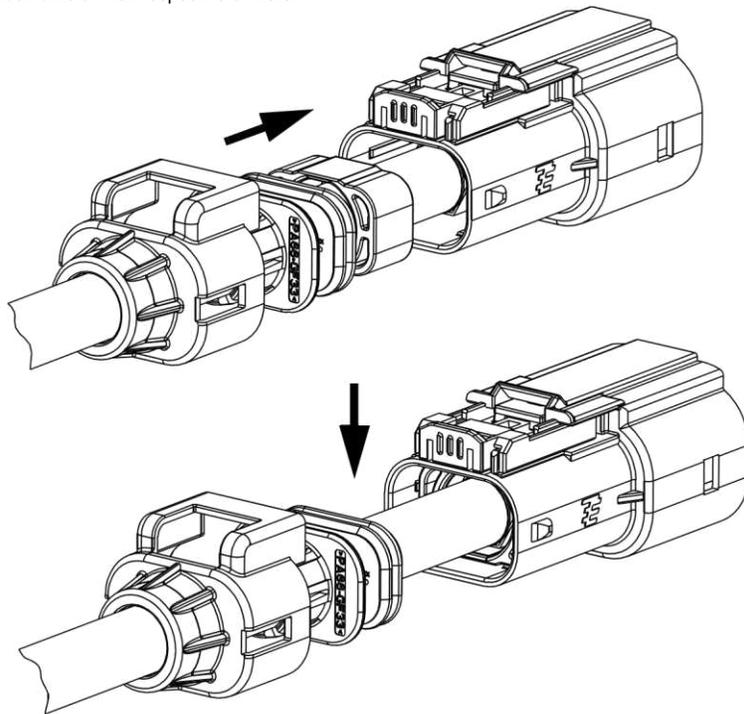

Figure 16
3.6.13. Slide the spacer forward on the cable and into the cable exit end of the connector assembly until it stops against the inside of the connector outer housing as shown in Figure 16.